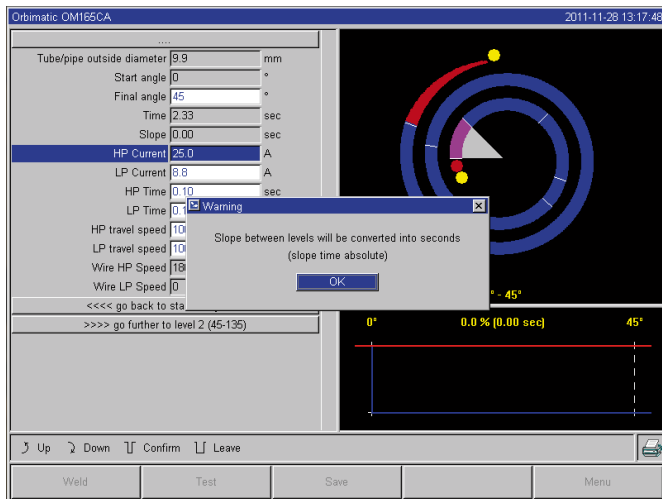

Fig. 22: Converting the slope time from percent to seconds
- ▶ Confirm message (see Fig. 22) by pressing the rotary knob.